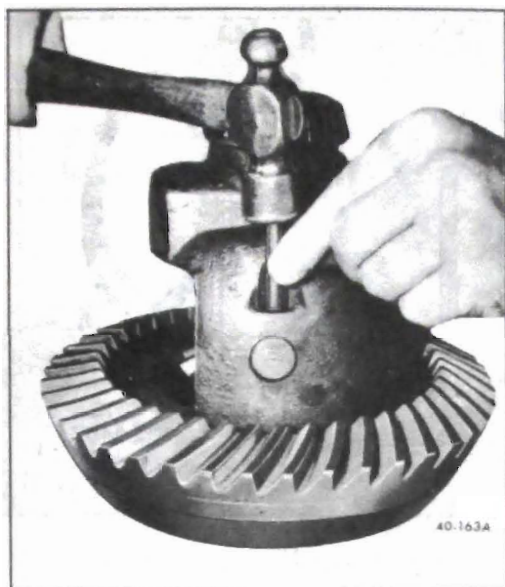

Figure 40-134 Removing Differential Pinion Shaft Pin
2. Remove pin that retains differential pinion shaft using a suitable punch. See Figure 40-134. Remove differential pinion gears, side gears and thrust washers from case.